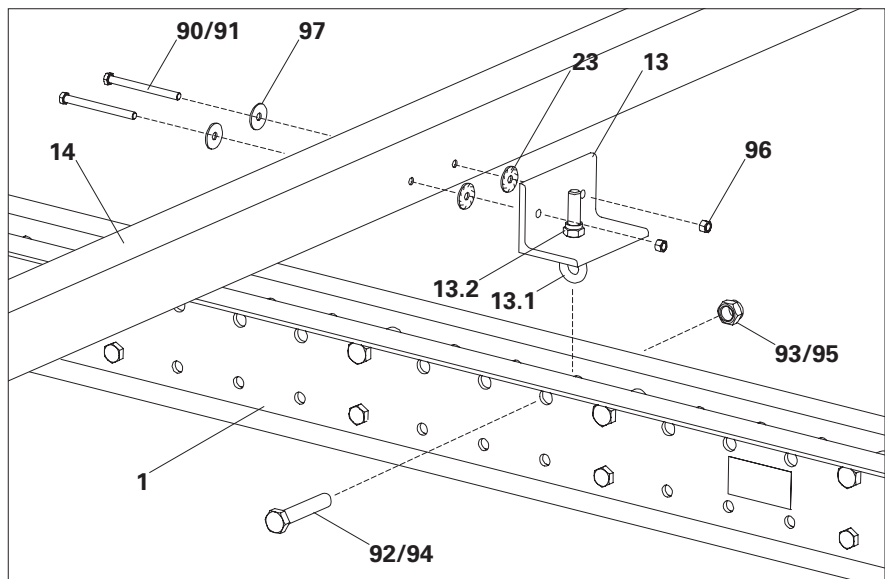

Fig. C3.01
(Fig. C3.01 + C3.02)
3. If statically required: hammer plate connectors (**23**) congruently into the holes of the enclosure beam, on the side of the squared timber adapter. Secure the plate connectors with wire pins. (Fig. C3.01)
4. Depending on the clamping length (squared timber height), insert bolts M12 x 140 (**90**) or M12 x 240 (**91**) through the holes of the squared timber adapter and enclosure beam. Secure bolt with washer (**97**) and nut (**96**). (Fig. C3.01)